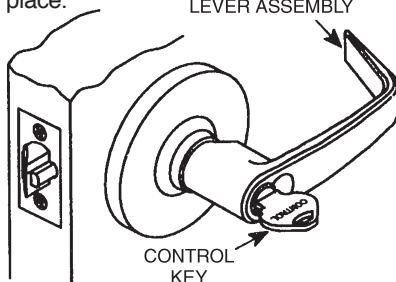

Figure 3
C. Insert core into lever and return key to its original horizontal position locking core in place. See Figure 3.